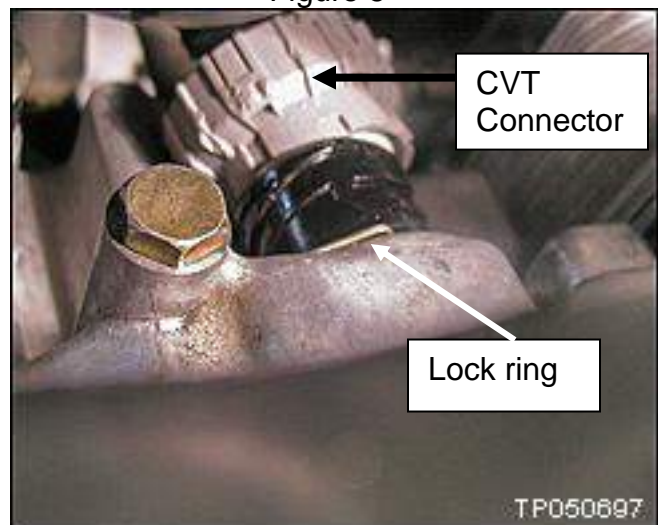

Figure 6
10. Remove the large lock ring holding the CVT connector to the transmission case (see Figure 6).
23. Reinsert the CVT connector with locking ring into the case as shown in Figure 6 and Figure 7. Check that the locating notch is properly engaged.